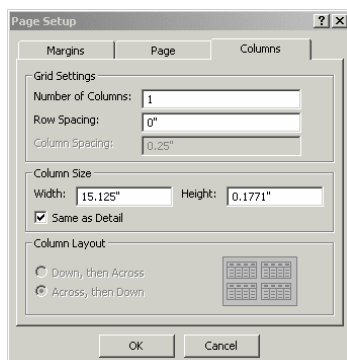

Figure 30 – Perforated Tube Project Book Columns Setup
4. Select the **Columns** tab and set the column settings as shown in Figure 30.